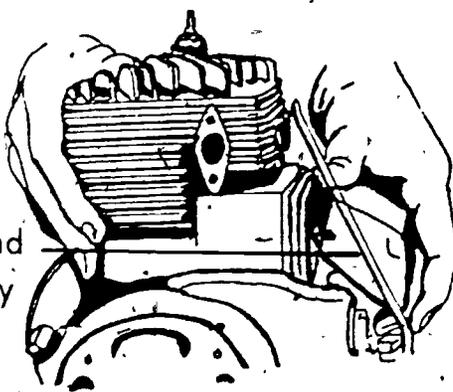

FIGURE 1
- C Remove drain plug (Figure 1).
- C. Remove crankcase breather cover if installed (Figure 1)